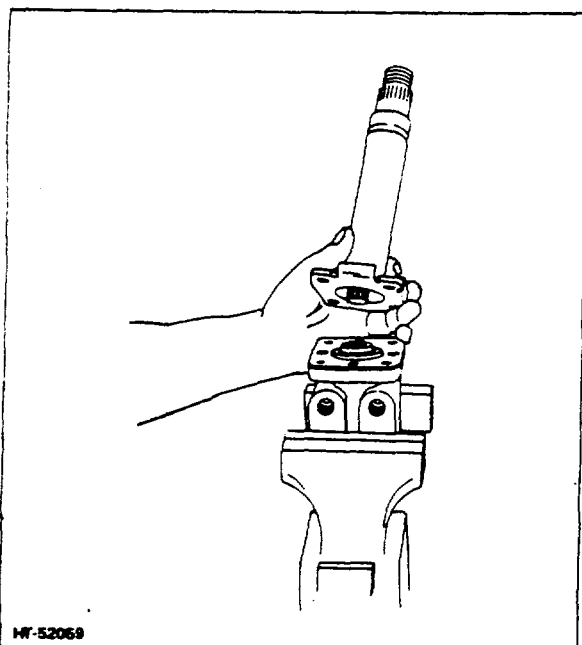

Figure 3-2. Removing Column From Housing
1. Place the power steering unit in a vise, (Fig 3-2). Remove the horn button and rubber cover by pushing down and turning counterclockwise to disconnect it from the attaching wedges located on the base plate.
capscrew holes so the ports will be in the proper direction when reassembled. Remove the column from the lower unit (Fig 3-2).